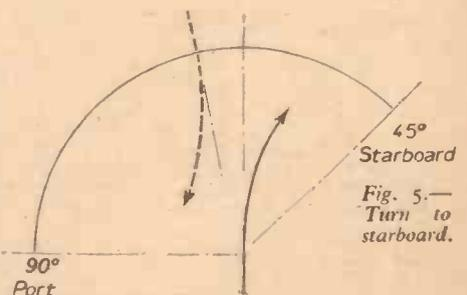
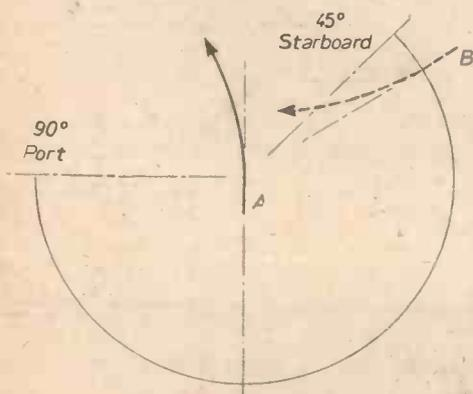

Fig. 5.—Turn to starboard.
Fig. 6.—Turn to port.
A new proposal is that an aircraft on an approach course with another should: (1) turn to starboard if the other aircraft appears on a bearing within a segment bounded by 90 deg. port and 45 deg. starboard (Fig. 5), or (2) turn to port if the other aircraft appears on a bearing between 45 deg. starboard, through stern, to 90 deg. port (Fig. 6). It will be noticed in the latter case that the left or port turn is only applicable to aircraft A, as aircraft B initially observes A dead ahead and, therefore, turns to starboard. If aircraft B is much faster than A, it is conceivable that it could intersect A at the latter swings to port.